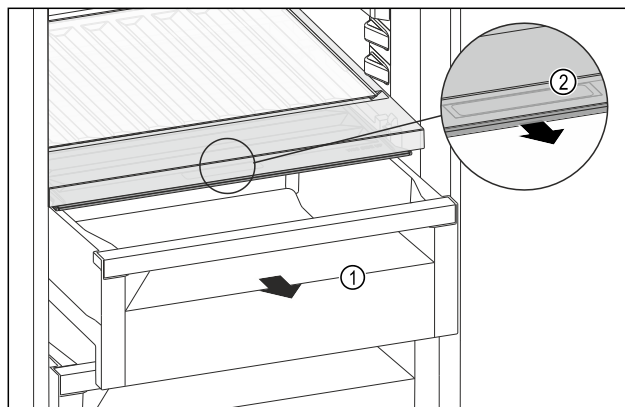

Fig. 176
- Pull out the drawer Fig. 176 (1).
- Grasp the recessed grip Fig. 176 (2) on the compartment lid and pull the compartment lid forwards at the same time.